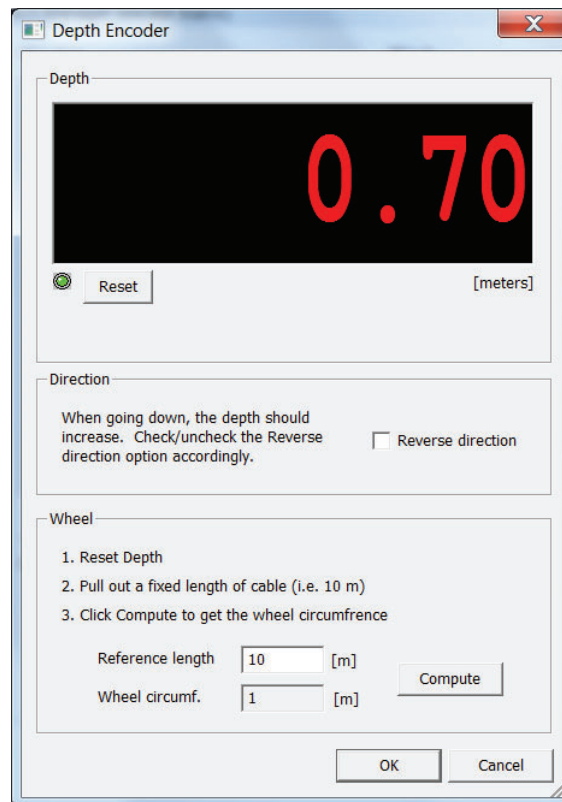

Figure 4-6 Checking the depth settings
- Press the **Reset** button to zero the depth. Pull cable from the winch to test the depth settings (Figure 4-6).